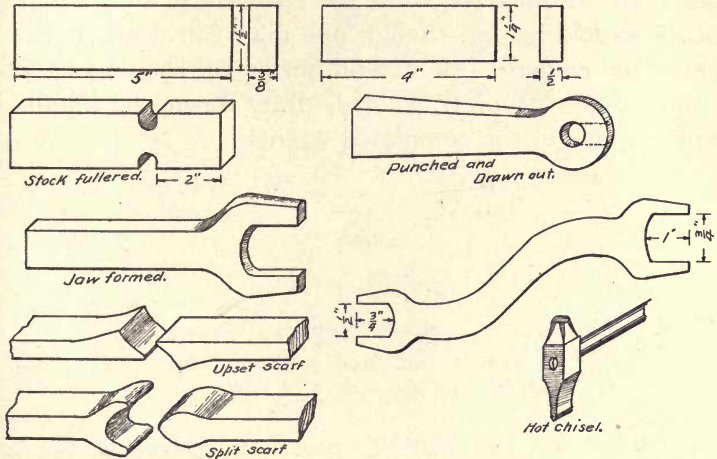

FIG. 204.—STEPS IN MAKING A WRENCH.
2. **Punching.** — Punch a $\frac{1}{2}''$ hole in the center, and with a hot chisel cut a piece out of the end along the dotted lines (Fig. 204). A hot chisel is made for cutting hot iron, while a cold chisel is made for cutting cold iron. The hot chisel is tempered the same as the cold